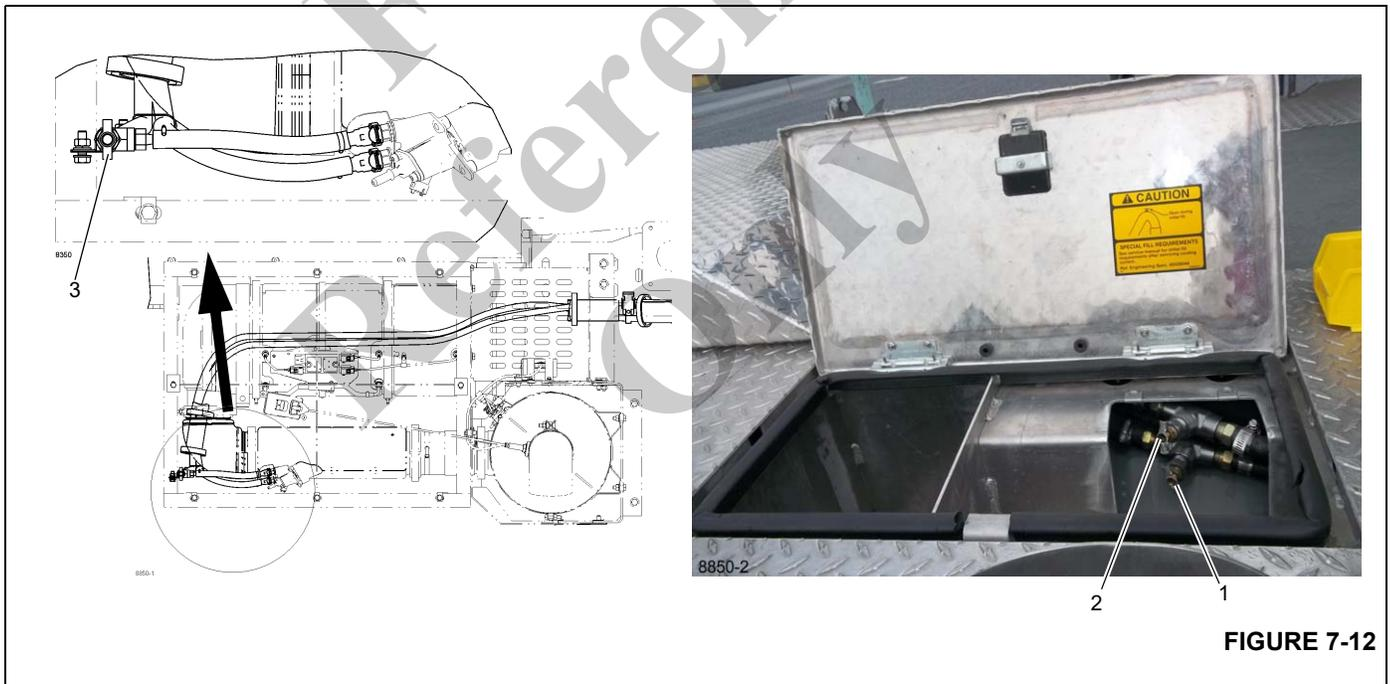

FIGURE 7-12
2. Open petcocks at the Diesel Exhaust Fluid (DEF) Tank (1,2), (Figure 7-12) to allow trapped air to bleed.
4. Verify a steady stream of fluid (no more than 1 (1 qt) at DEF tank petcocks (1,2), (Figure 7-12), then close.
7. Operate the engine through two (2) thermal cycles and re-check the fluid level. Re-fill as necessary repeating Step 3.